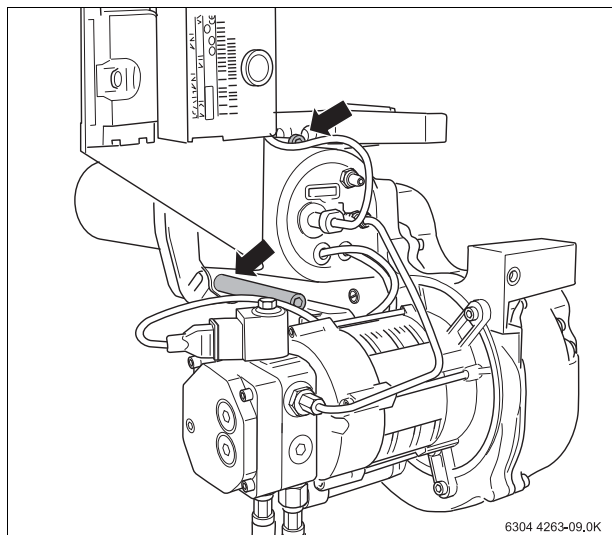

Fig. 21 Unscrew the bayonet catch screws
- Loosen the two main burner service bolts (Fig. 21, arrows).
Servicing the burner is simplified when bringing it into the Service Position. To remove loosen the 2 bayonet screws 5-6 turns, then turn and remove the burner from the catches (Fig. 21).